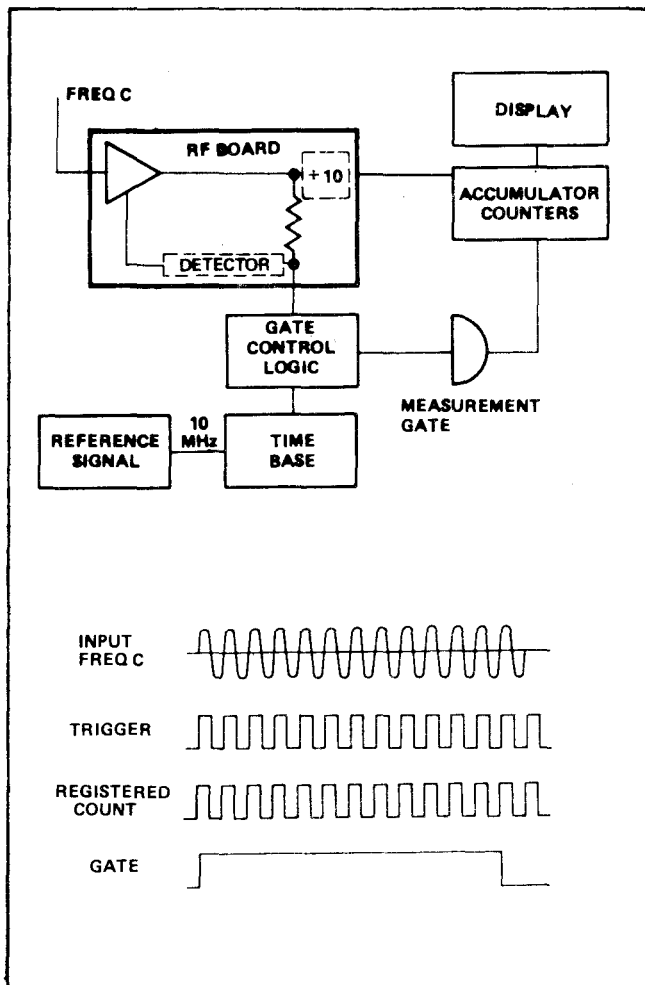

Figure 1.6 - Frequency C
1.3.6.1 In the Frequency C mode, the signal of unknown frequency is applied to the accumulator through the RF option board. The RF option includes an amplifier, detector circuit, and a divide-by-ten counter (figure 1.6).